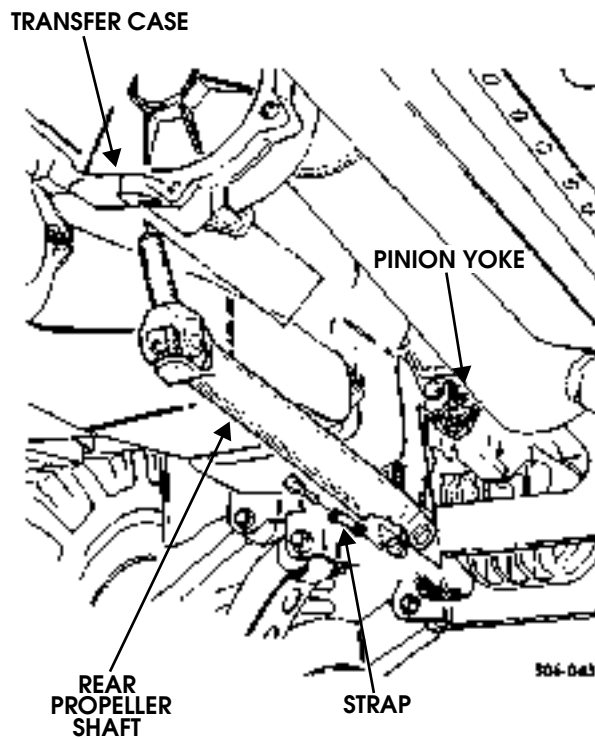

Figure 9-57: Rear Propeller Shaft Removal
3. Remove four bolts, two straps, and rear propeller shaft from pinion yoke (Figure 9-57).
9. Install rear propeller shaft in transfer case (Figure 9-57).
10. Secure rear propeller shaft to pinion yoke with four bolts and two straps. Tighten bolts to 60 lb-ft (81 N•m) (Figure 9-57).